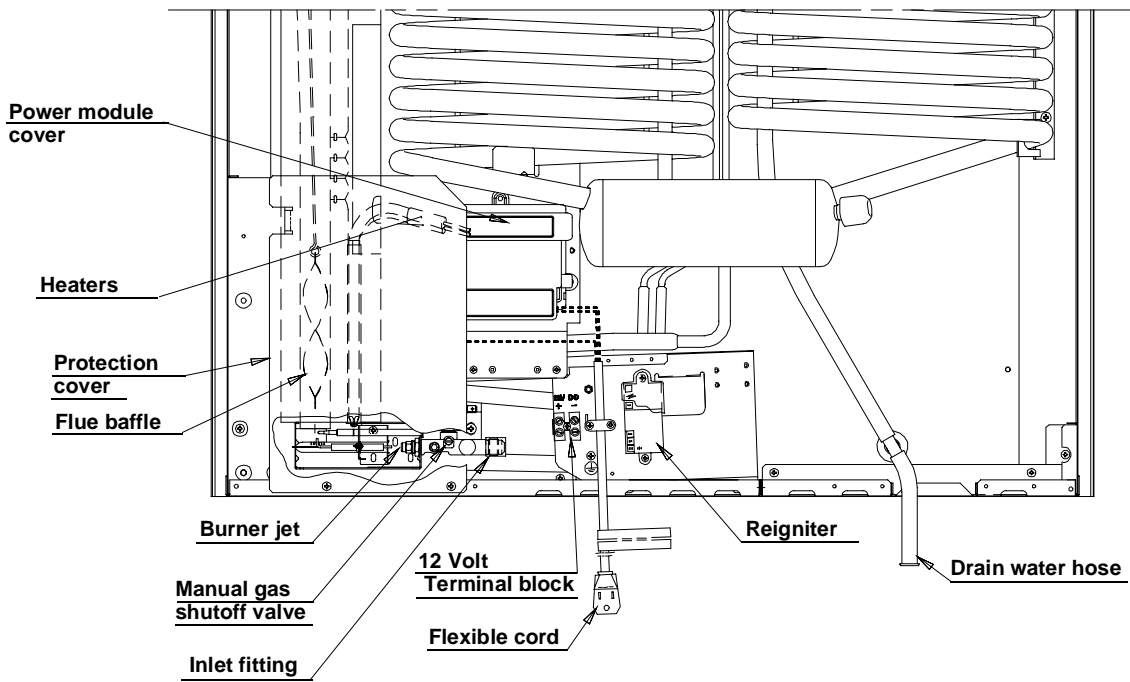

FIG. 1
DC control is required to maintain the automatic energy system). The connection is made to the positive (+) and negative (-) terminals of the terminal block on the back of the refrigerator. (See FIG. 1). Correct polarity must be observed when connecting to the DC supply.
- Check that the gas flame is lit and the GAS mode indicator lamp (C) is on.
- Close the manual gas shutoff valve at the back of the refrigerator. (See FIG. 1).
- Wait for one minute. The CHECK indicator lamp (D) should be on and the GAS mode indicator lamp (C) should be off.
- Remove protection cover (see FIG. 1) and open the manual gas shutoff valve. Do not change any button positions on the control panel. Apply a non-corrosive commercial bubble solution to the burner jet orifice.
- If no bubbles were present at the burner jet orifice, it should be rinsed with fresh water. Be careful not to damage the burner jet orifice. Replace cover and press the main power ON/OFF button (1) OFF and back ON. Normal operation of the burner should return. Allow the burner to operate for a minimum of five minutes.